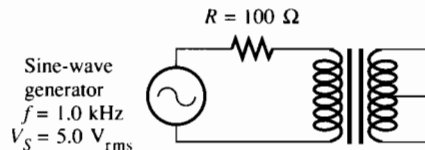

Figure 22–3
3. For safety, we will use an audio generator in place of ac line voltages. Connect the circuit illustrated in Figure 22–1. Power transformers are designed to operate at a specific frequency (generally 60 Hz). Set the generator to a 60 Hz sine wave at 5.0 V_{rms} on the primary. Measure the secondary voltage. From the measured voltages, compute the turns ratio for the transformer. Enter this value as the measured turns ratio in Table 22–1.
The ideal transformer model neglects a small current that flows in the primary independent of secondary load current. This current, called the *magnetizing* current, is required to produce the magnetic flux and is added to the current that is present due to the load. The magnetizing current appears to be flowing through an equivalent inductor parallel to the ideal transformer. Investigate this current by connecting the circuit in Figure 22–3 using the impedance matching transformer. Calculate the magnetizing current, I_M , in the primary by measuring the voltage across a series resistor with no load and applying Ohm's law: